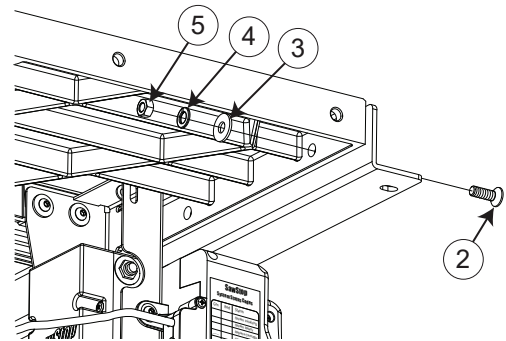

Fig. 4
4. Place an M8x23x2 washer and an M8 lock washer on the back of each of the M8x1.25x25 flat-head socket bolts that extend through the extension wings, and then thread an M8x1.25 hex nut on each bolt (see Fig. 4). Hand tighten the nuts; do not fully tighten them.